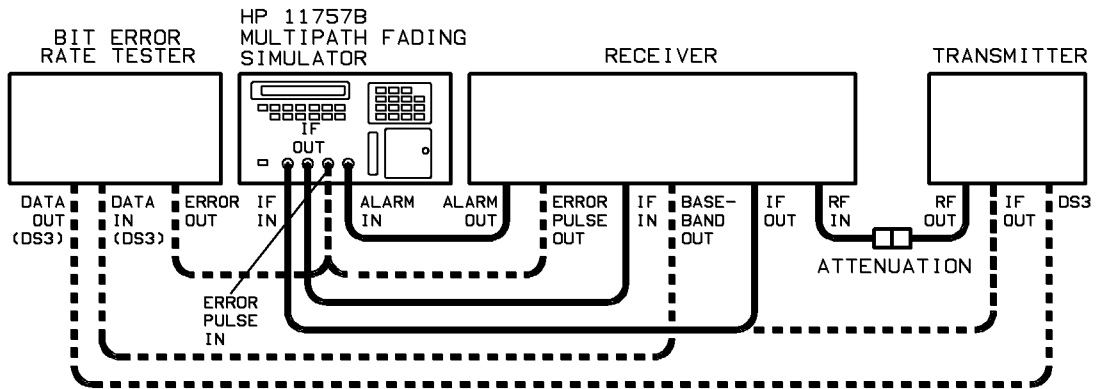

Figure 1-6. Recovery Time Test Setup
1. Connect the Fader, Digital Radio, and BERT if used as shown in figure 1-6.